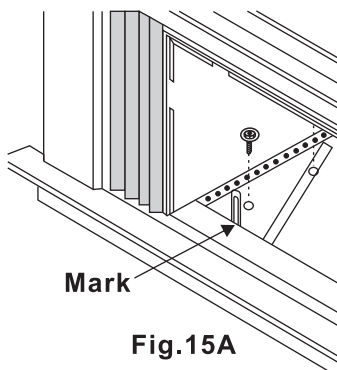

Fig.15A
1. Hold each support bracket flush against outside of sill, and tight to bottom of cabinet as shown in Fig. 15A. Mark brackets at top level of sill, and remove.